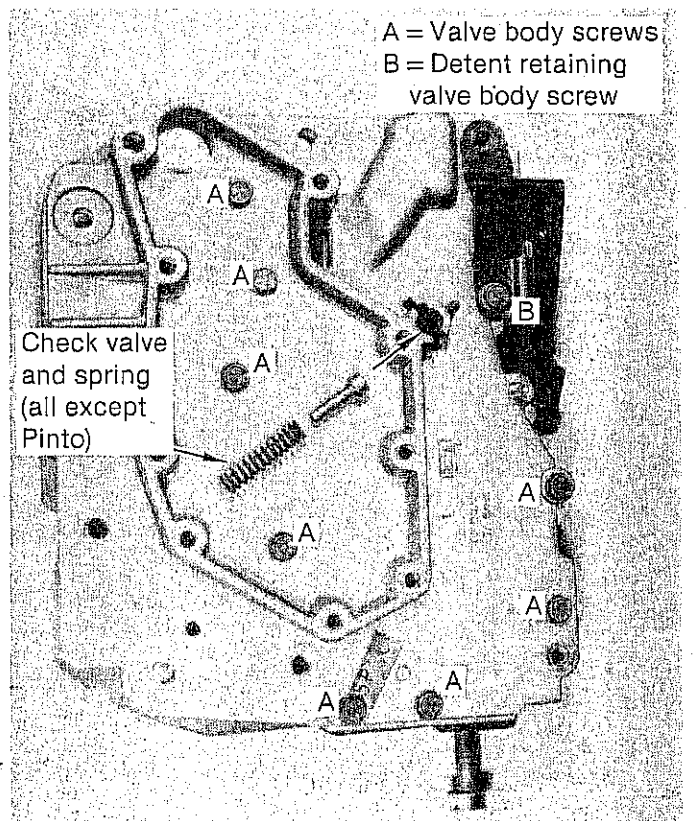
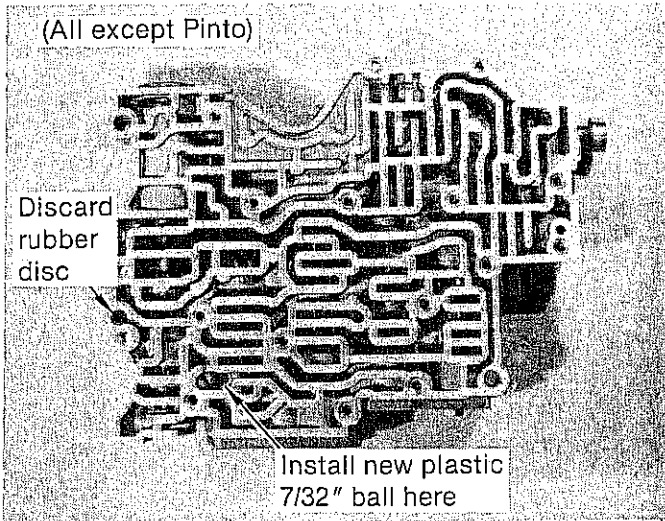

FIGURE 35
FIGURE 36
aside. Note: These screws are long. All except Pinto will have a check valve and spring under a tab in the corner of the filter. Remove the valve and spring and set them aside. (See Fig. 35).
STEP 4. Lift the **transfer plate** assembly off the **casting**. There is one black plastic check ball (all except Pinto) or two check balls (Pinto only) and a flat black rubber disc in the **casting**. (See Fig. 36 or 36A) Remove these and discard them. Set the **transfer plate** assembly aside.
STEP 9. Lay casting on bench with passages facing up. Install new 7/32" plastic ball in passage indicated in Figure 36 or 36A. Set the casting aside.
STEP 13. Install transfer plate assembly onto casting. Make sure that all casting end plates and pins are below machined hydraulic surface. Make sure casting check ball is in place. (See Fig. 36 or 36A). Install eight medium length valve body bolts in place in position shown in Fig. 35. Tighten finger tight. The casting and transfer plate should be flat against the separator plate. If it is not there is an interference problem that must be corrected. Do not install detent roller spring yet.